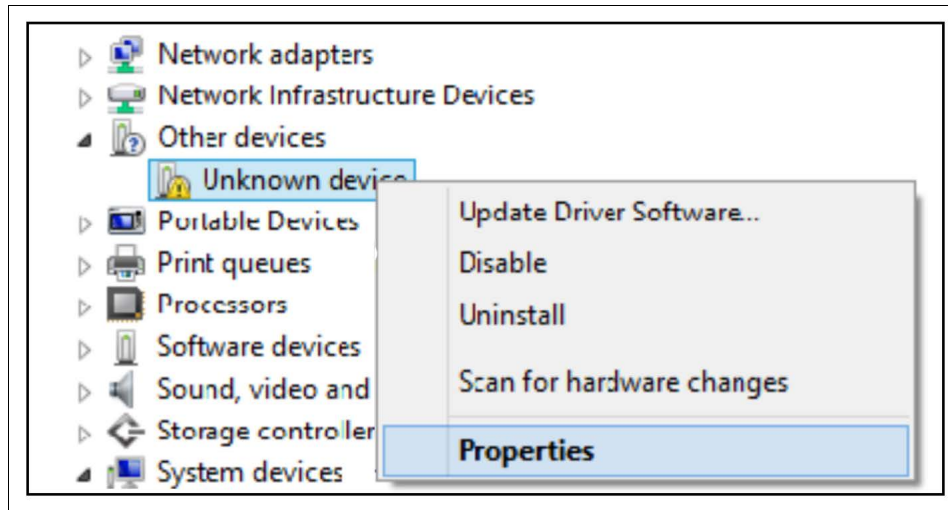

Figure 30. Laptop Device Manager
- b. In the Device Manager screen click the expand arrow (>) next to **Ports (COM & LPT)**. If Ports (COM & LPT) is not showing in 'Device Manager', look for unknown devices or a yellow exclamation point (see Figure 30).